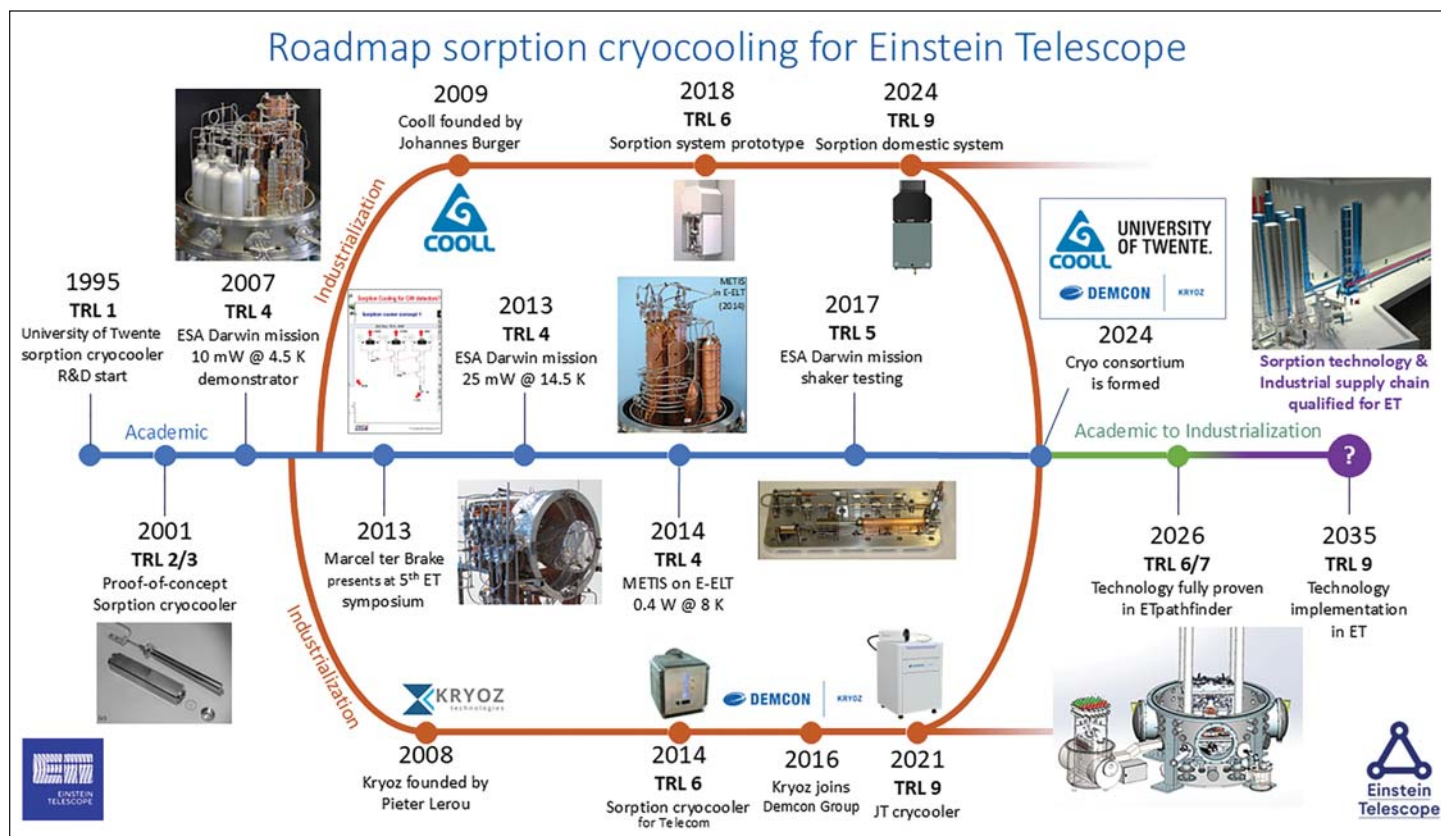

Figure 1. Roadmap for the sorption cryocooling technology for the Einstein Telescope, showing the heritage of the technology.^[2-9] Credit: ETPF Project
of 50 μm . Although challenging, the strong heritage in sorption-based cryocooling in Twente (The Netherlands) provides a solid foundation for the development of this innovative cryocooler, and the consortium's combined expertise ensures confidence in reaching the required technology readiness level (TRL 6–7) within the given timeframe of three years from the Dutch National Growth Fund. The roadmap of this technology is displayed in Figure 1. Previous achievements demonstrate the feasibility of this technology. For example, vibration levels below the required displacement level of 0.28 μm peak-to-peak were achieved for a 4.5 K helium sorption cryocooler for the ESA Darwin mission in 2007.^[2] Furthermore, Demcon kryoz has developed the CryoEM cooler, an OEM product to cool samples to cryogenic temperatures in an Electron Microscope (EM), with specifications of approximately 1 nm peak-to-peak vibration levels, demonstrating the consortium's capability to deliver breakthrough cryogenic technologies.